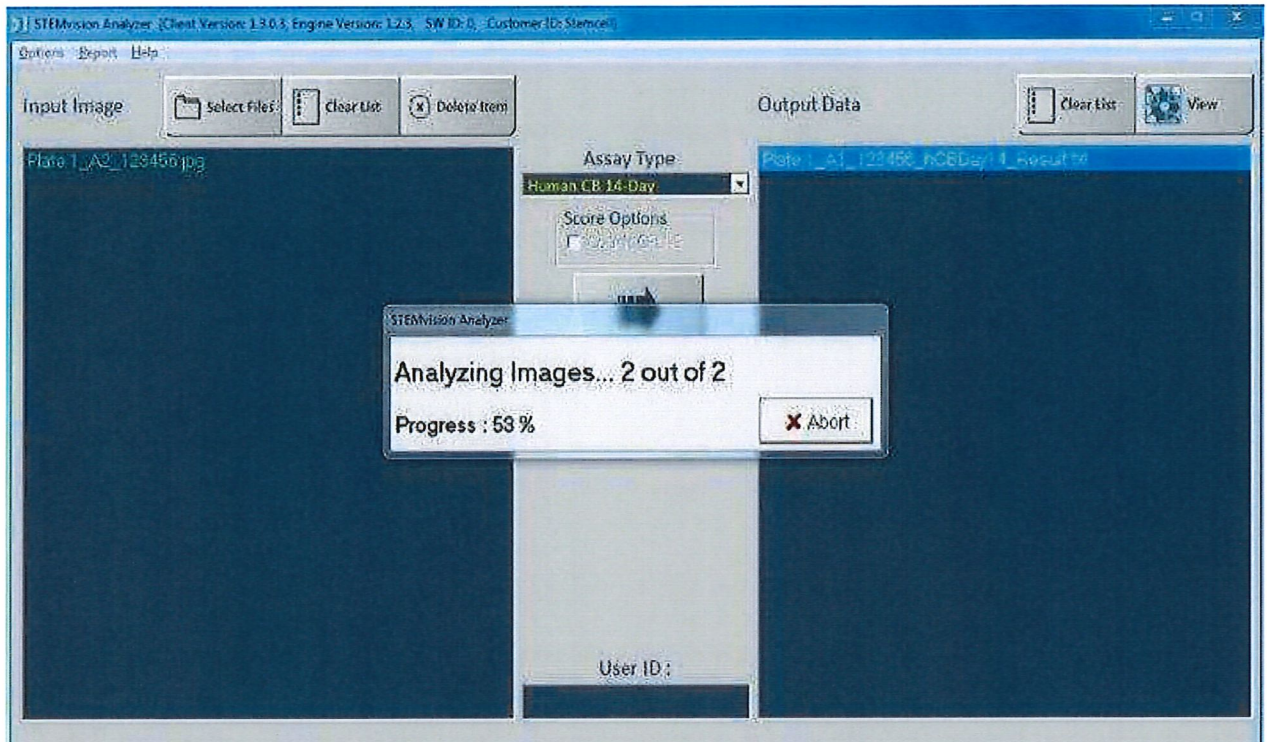

Figure 8
- 8.8.5 As the images are analyzed the file names will move from the “Input Image” to the “Output Data” field. The analysis result files will be saved in the same sub-folder as the images. See **Figure 8**.
- 8.8.6 Click the “Clear List” button to clear the list of analyzed images. This removes files from the “Output Data” list only; all data files will remain stored in their original location. See **Figure 8**.